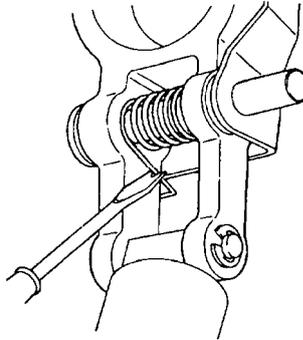

Figure 110 Attaching Cancel Spring to Tension Lever
- u.** Attach the cancel spring to the tension lever (Figure 110).